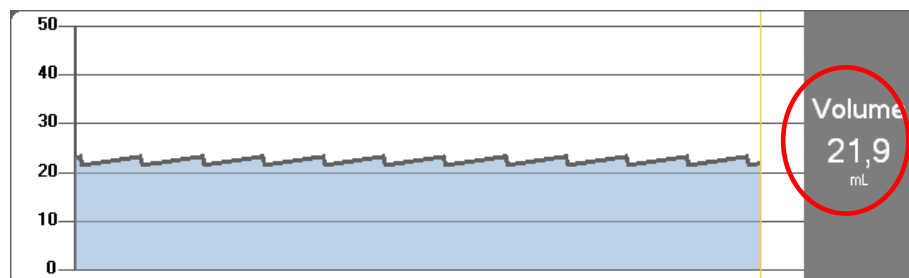

Fig 27
- the total infused volume (Fig 27);